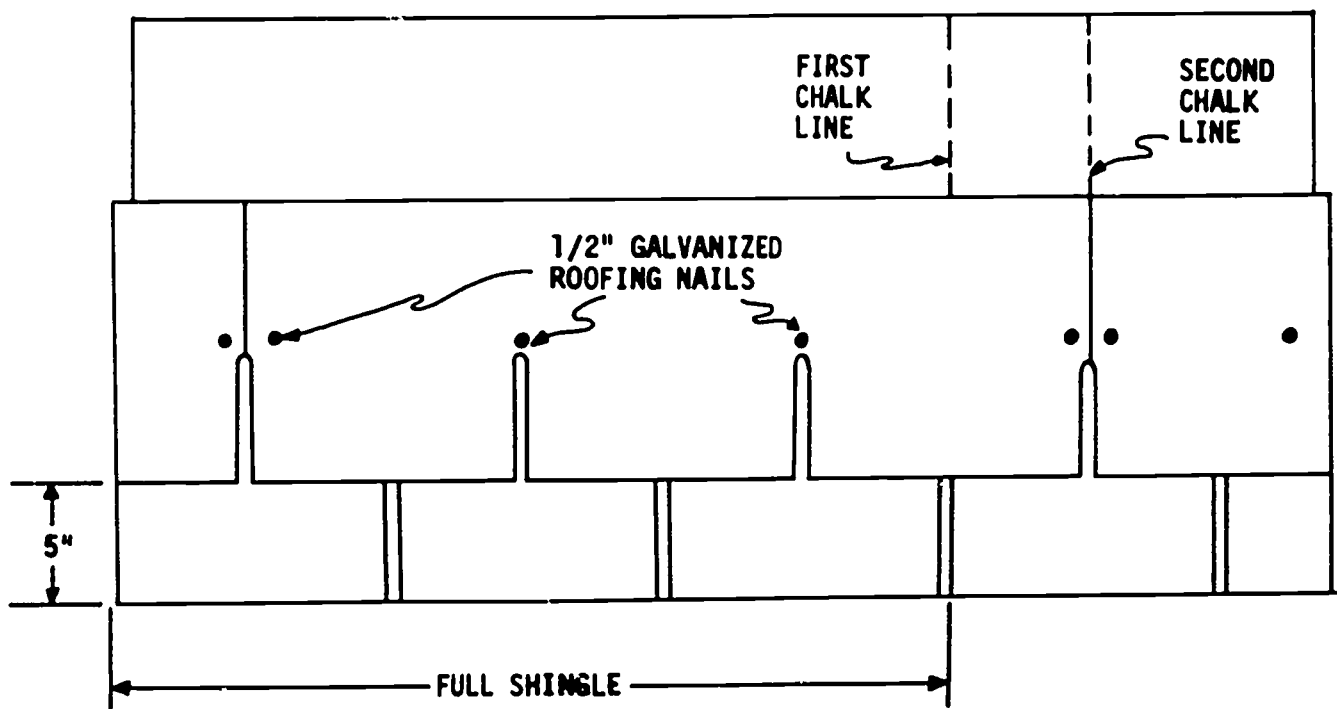

Fig. 107-2. First Two Courses of Shingles laid  $5"$  to the Weather
8. Explain how shingles should be nailed: place the nails as shown in Fig. 107-2. Instruct students *not* to drive nails into the 2" overhang along the left end.
10. The second course of shingles is started 6" to the right of the first course; the second chalkline is the guide. Lay one full shingle to the left. Then cut pieces to fit at each end. *Cut both pieces from the remainder of the shingle cut for the first course.* See Fig. 107-2.